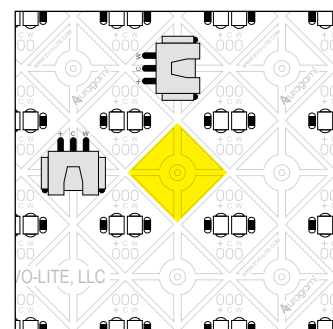

Figure 23
- First, locate the area you'd like to place the bumper. The ideal placement is directly over the circular, pre-cut mounting holes (figure 23).